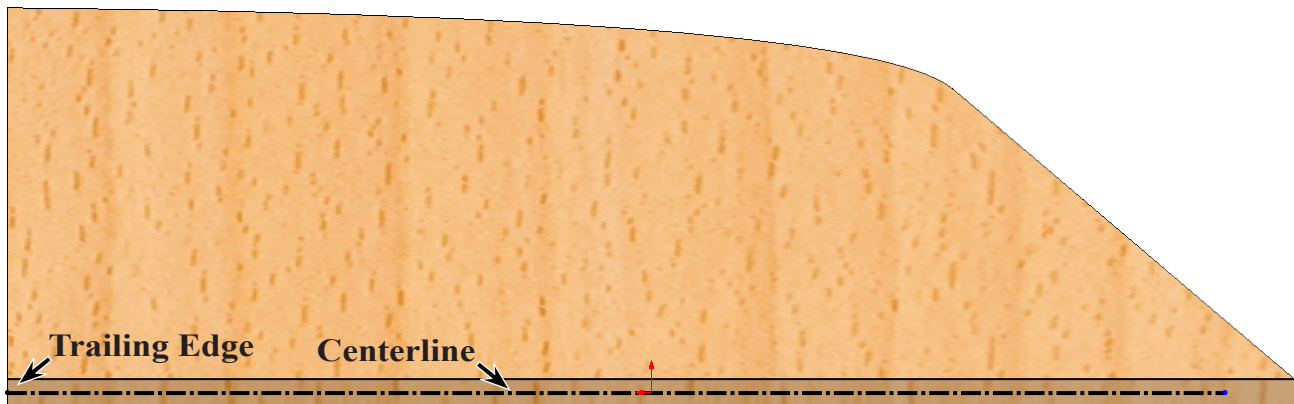

Fig. 18
Step 4. Draw a centerline part way across the sketch, **Fig. 18**. Start from **Midpoint**  of trailing edge.